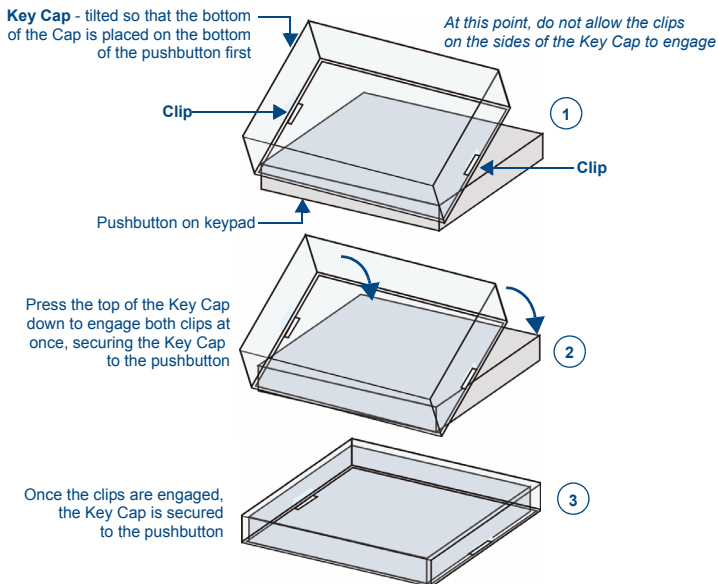

FIG. 11 Placing a Button Label inside a Key Cap
- Install the Key Cap on the pushbutton (FIG. 11):